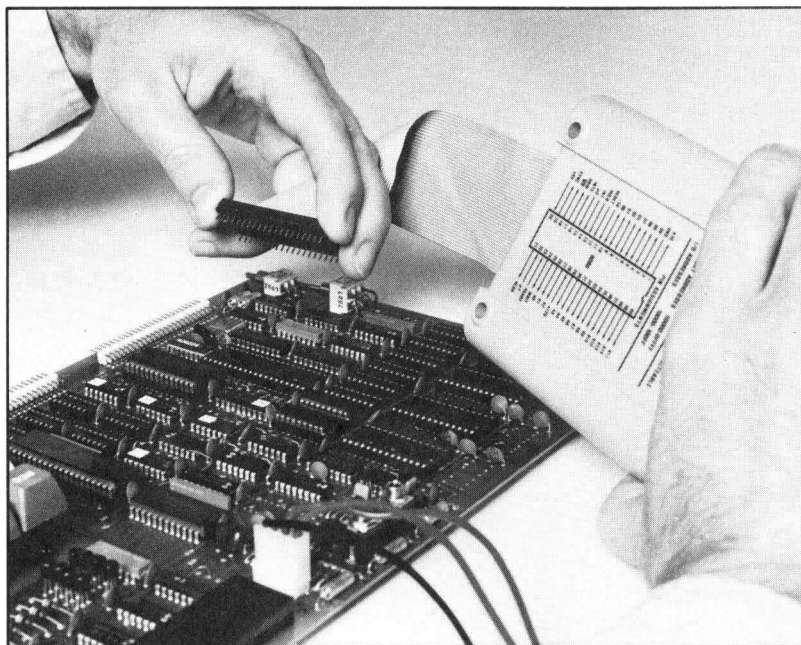

Figure 2-2. Connection of Interface Pod to UUT
7. Align the ribbon-cable with the microprocessor socket on the UUT so that the notched corner of the ribbon cable plug aligns with pin 1 of the socket. Insert the plug into the socket as shown in Figure 2-2.